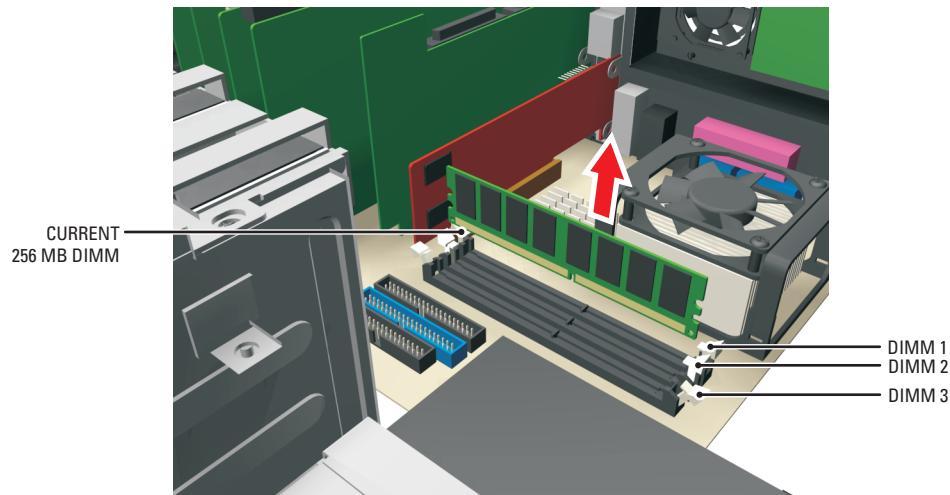

Figure 7. Current 256 MB DIMM Module In DIMM 1
2. Remove the current 256 MB DIMM module from slot DIMM 1. Refer to Figure 7.